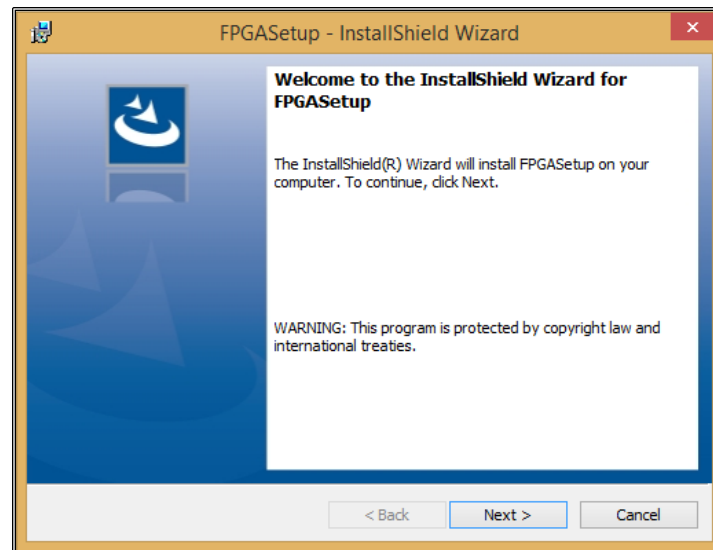

Fig A.3
Step 4: Click **Next** (Fig A.3).